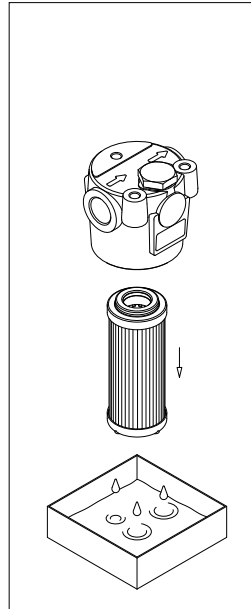

fig. 18
- (Fig. 18) Pull the filter element out